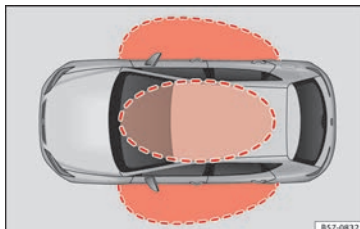

Fig. 119 Keyless Access locking and ignition system: In the proximity of the car.
Keyless Access is a key-free locking and ignition system to unlock and lock the vehicle without actively using its key. For this, all that is required is for a valid vehicle key to be in an area near the vehicle **» Fig. 119** and one of the sensor surfaces on the door handles to be touched **» Fig. 120** **» ❶**.
If a valid key is located in the proximity of the car **» Fig. 119**, the Keyless Access lock and ignition system gives the key entry as soon as one of the sensor surfaces on the driver's
When the vehicle is locked, the rear lid automatically unlocks on opening if there is a valid vehicle key in the proximity » Fig. 119.